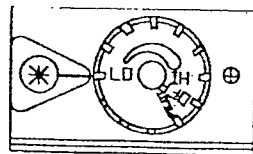

Figure 11
6. *Single:* With control knob pressed in, push down and release ignitor button. This will light pilot. The pilot is attached to the front of the burner and can be seen through the glass panel. If needed, continue to press ignitor button until the pilot lights (see Figure 11).